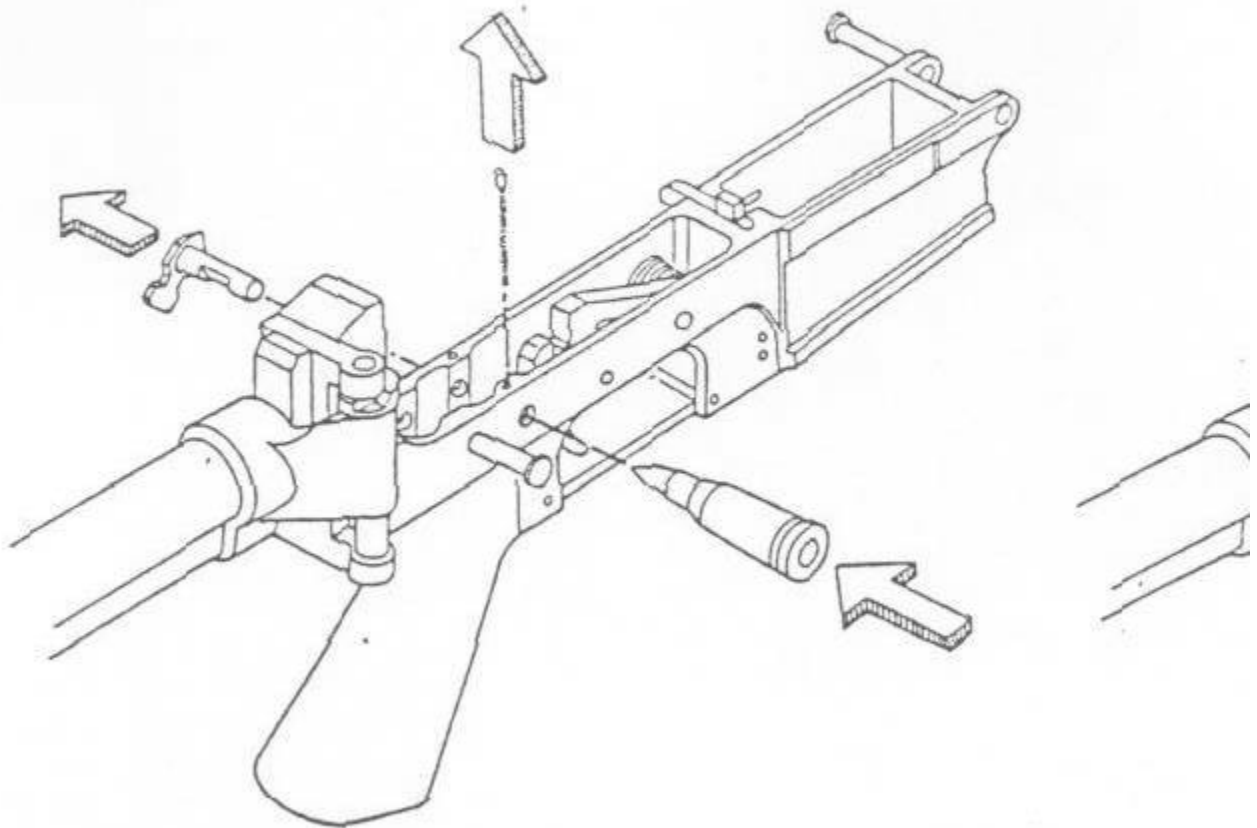

FIGURE 9
3. From the opposite side of the rifle, push the base of the selector lever rod until the lever can be pulled free of the lower receiver. (See Figure 9)
4. At this point, the selector lever detent pin will be forced by the pressure of the selector lever detent spring from its hole. Remove both the selector lever detent pin and the selector lever detent spring from the lower receiver and insert them in the corresponding hole in the opposite side of the receiver. (See Figure 9)